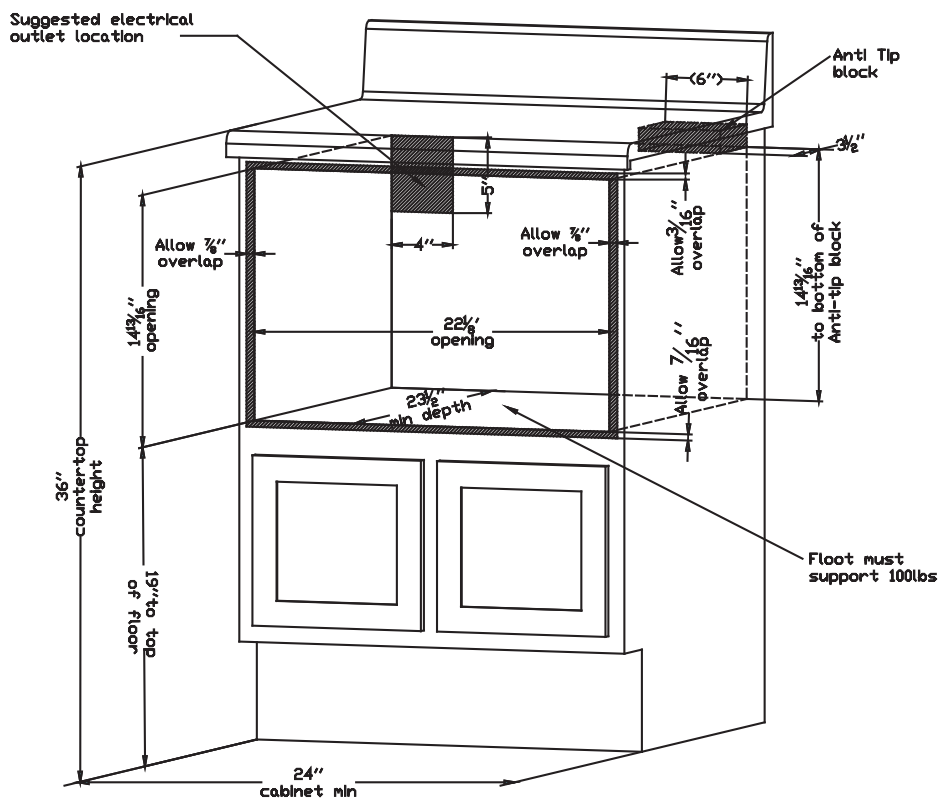
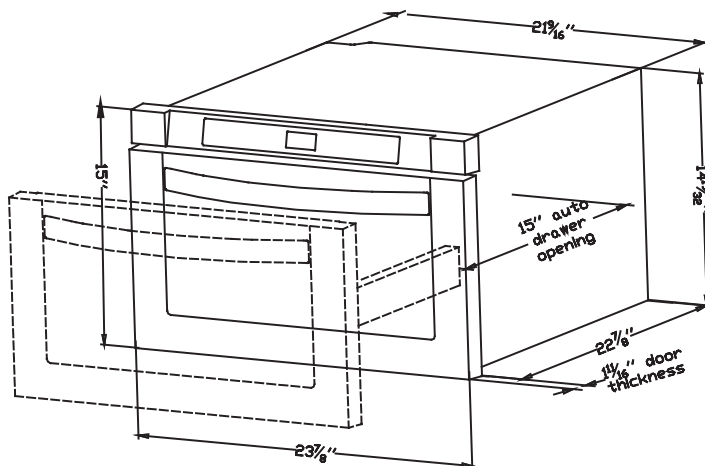
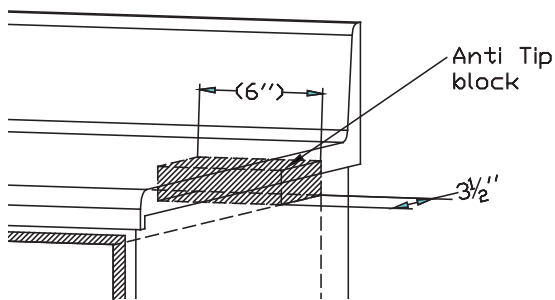

Figure 1
Figure 2
Figure 3
For safety considerations, do not install drawer in any combustible cabinetry, which is not in accord with the stated clearances and dimensions on Pages 5-6 (See **Figure 1**).
- Dimensions that are shown in **Figure 1** must be used. Given dimensions provide minimum clearance. Locate electrical outlet in the shaded area in the upper left-hand corner of the cutout. See **Figure 3**.
Figures 1 and Figure 2 contain many Microwave Drawer measurements for reference when planning the drawer's location. This Microwave Drawer can be installed below any electric or gas wall oven.
To reduce the risk of tipping of the drawer, the Anti-Tip block must be properly installed located **14 13/16 inches** above the floor on which the Microwave Drawer will sit. The **6 inch** Anti-Tip block must be provided by the installer. See **Figures 1 and 3**. The Anti-Tip block prevents serious injury that might result from spilled hot liquids.